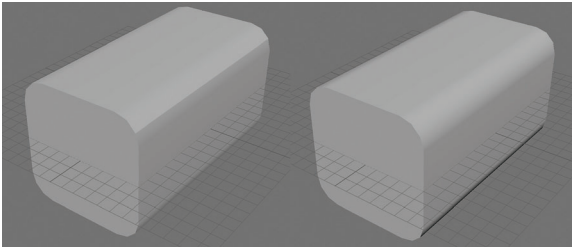

FIGURE 1.8 Softening the edges.
Step 4: Soften edge. Swap out of Edge mode into Object mode by right-clicking (and hold) and choosing Object from the marking menu. Click in an empty space in the viewport to deselect the rounded cube. See a harsh line on the rounded-out corner? This is due to that edge being "hard." To soften it, swap to Edge mode and then select that edge and hold down the Shift button and double-click the next one to select the entire edge ring. Use Mesh Display->Soften Edge to make all the lines of this ring a soft edge (Figure 1.8).